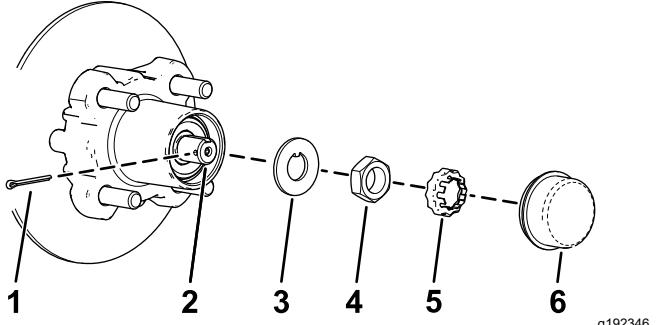
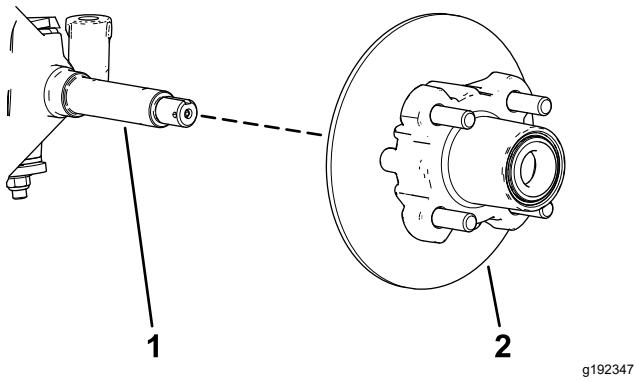

Figure 32
Figure 33
4. Remove the dust cap from the hub (Figure 32).
- 5. Remove the cotter pin and nut retainer from the spindle and spindle nut (Figure 32).
- 6. Remove the spindle nut from the spindle, and separate the hub and rotor assembly from the spindle (Figure 32 and Figure 33).